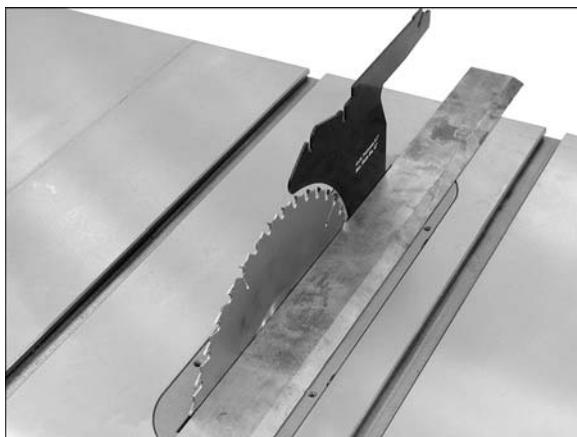

Figure 10
4. Lay a straight edge against side of riving knife and blade (Figure 10). Make sure it contacts flat surface of blade, not an offset tooth.